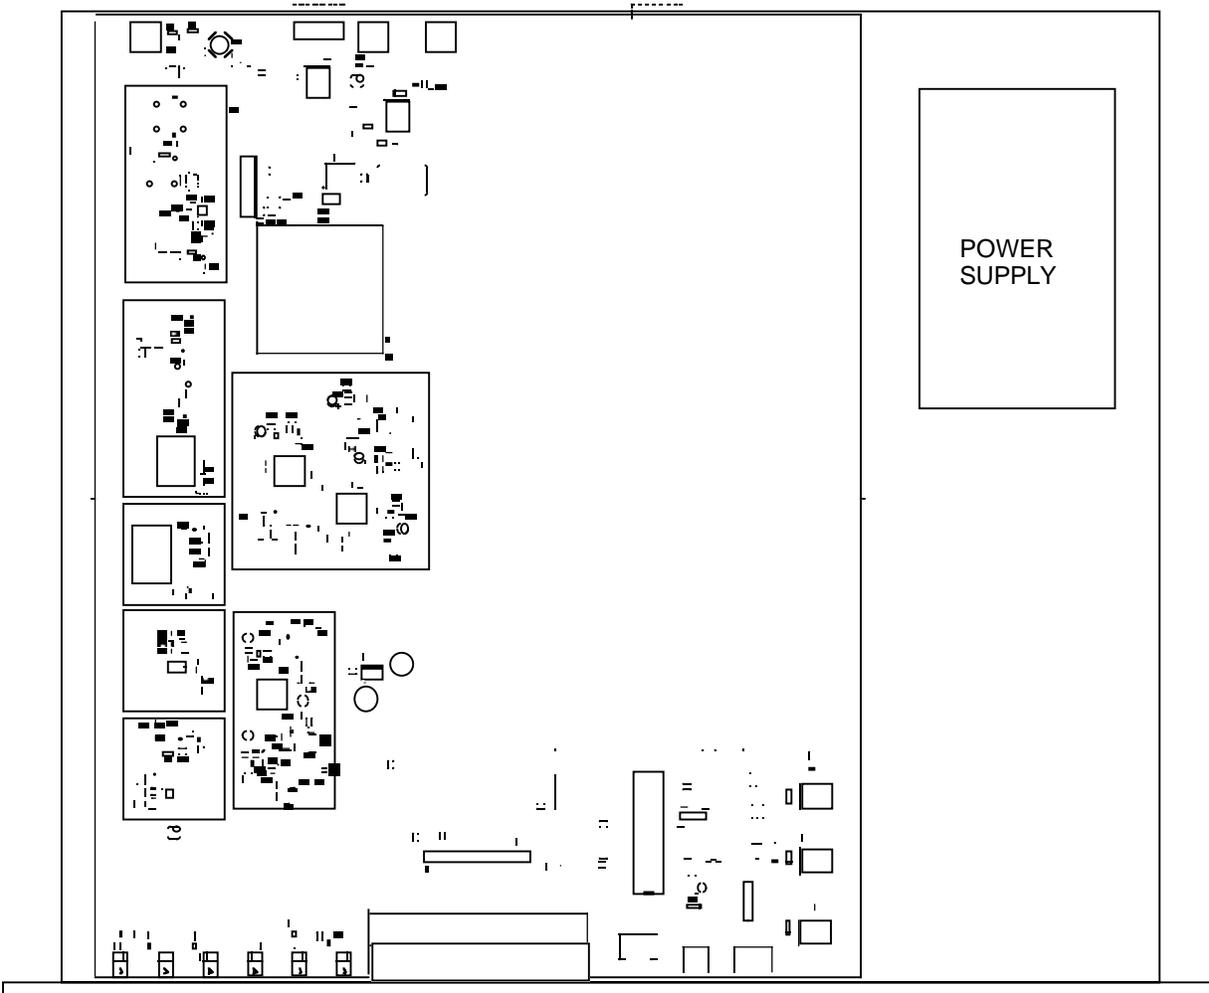

FIGURE 2.0 2015-1351 Mechanical Assembly
2.1 Mechanical - The 2015-1351 consists of one RF/Controller PCB housed in a 1 RU (1.75 inch high) by 16 inch deep chassis. A switching, ± 12 , +24, +5 VDC power supply provides power for the assemblies. The 2015-1351 can be secured to a rack using the 4 holes on the front panel. Figure 2.0 shows how the 2015-1351 is assembled.